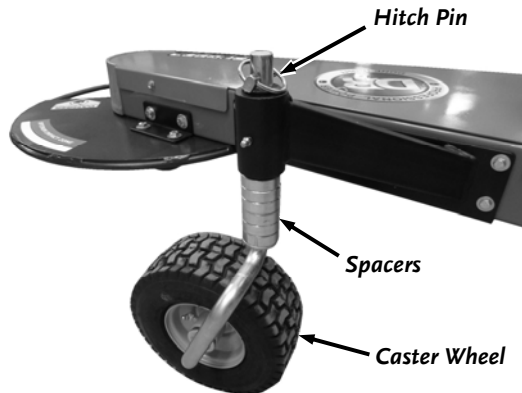

Figure 5
4. Remove the Hitch Pin from the Caster Wheel and install the Shaft into the Caster Bracket (**Figure 5**). Reinsert the Hitch Pin to secure the Caster.